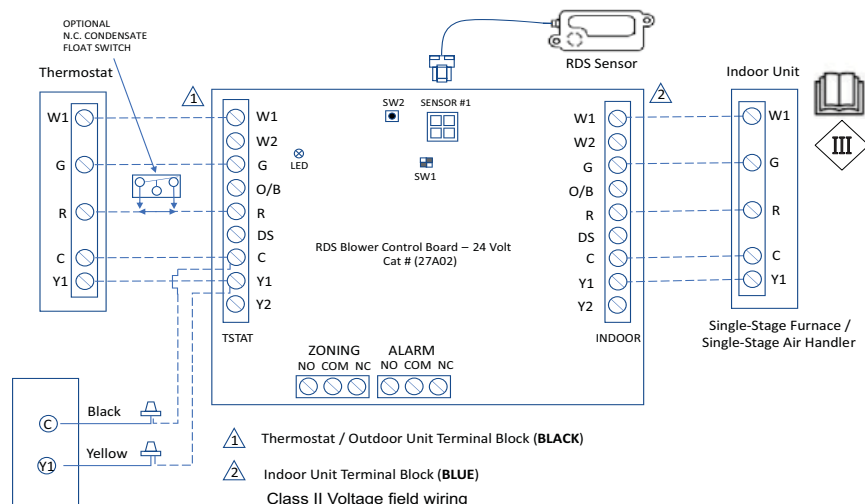

FIGURE 14.
5. Install low voltage wiring as shown in Figure 14.